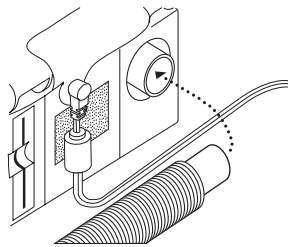

FIGURE 3-2 CONNECTING THE FLEXIBLE TUBING
1. Connect the flexible tubing to the air outlet on the back of the device, as shown in Figure 3-2.